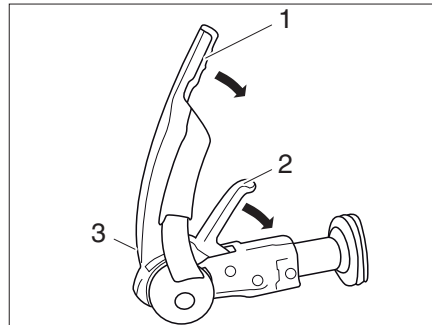

Fig. 1 AKS 3004 stabiliser
- Pull the stabilising lever (Bild 1,1) upwards as far as it will go.
- Pull the coupling handle (Bild 1,2) upwards.
- Conduct a visual inspection: The green cylinder of the safety indicator (Bild 1,3) has to be visible.
- Activate the stabilising mechanism. To do so, push the stabilising lever (Bild 1,1) downwards as far as it will go.